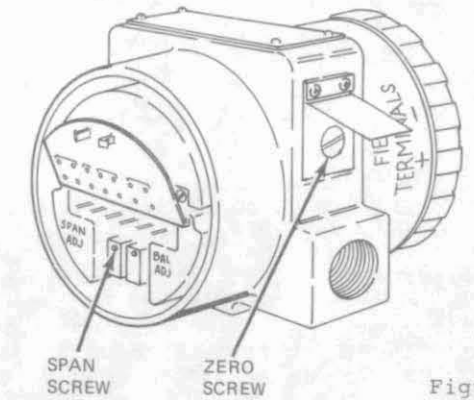

Figure 16
2. Set calibrating pressure at lowest value attainable. Calculate corresponding output; use formula in Figure 11. If necessary, adjust ZERO screw (Figure 16) to get correct output.